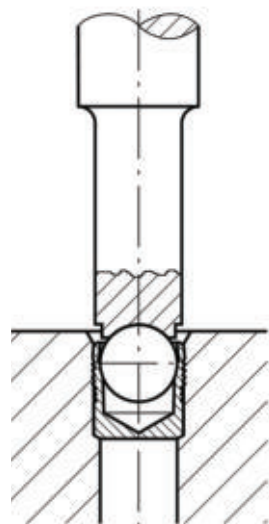

Fig. 2
- The ball is now pressed in until the top of the ball is below the edge of the sleeve (Fig. 2 and 3). Corresponding approximate values for stroke S as well as the dimensions X can be found in the table below.